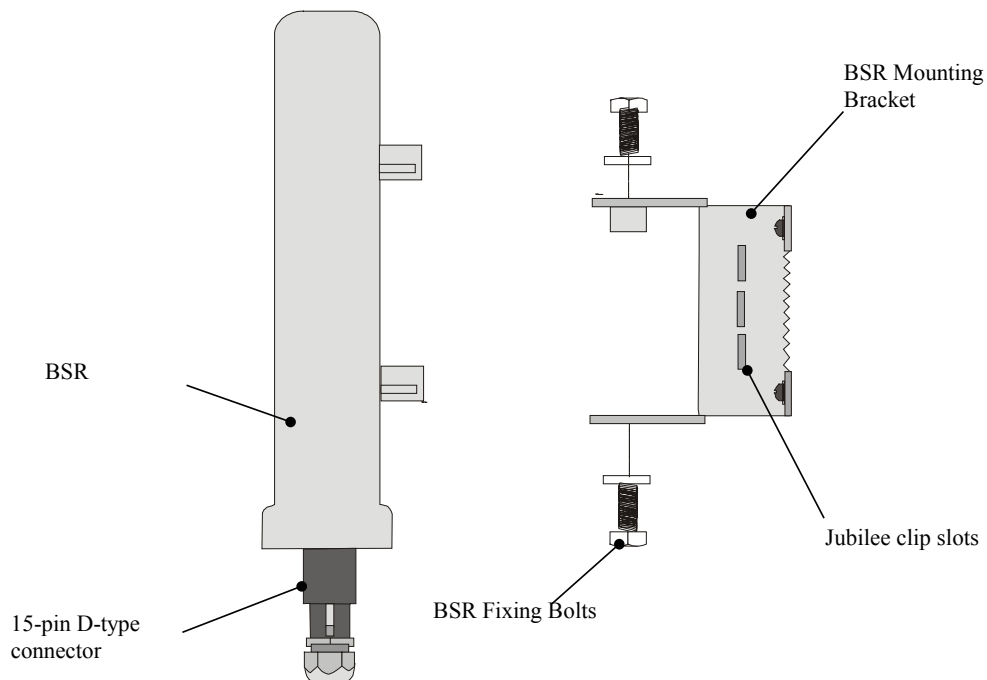

Figure 6-4: Attaching the mounting bracket to the BSR
1. Attach the mounting bracket to the BSR using two stainless steel bolts, as shown in Figure 6-4.